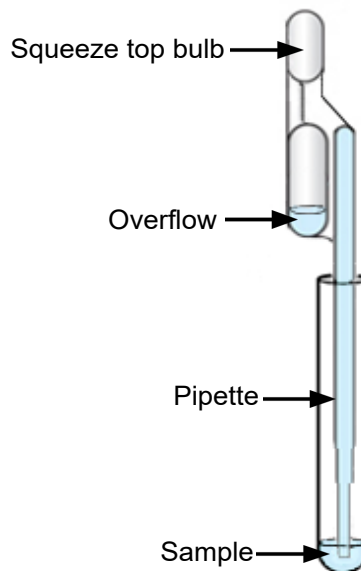

Figure 3. Transfer Pipette
1. Squeeze the top bulb of the transfer pipette **completely** and place the pipette tip in the ESwab transport medium tube containing the patient specimen (see Figure 3).
3. To transfer the patient specimen to the cartridge, squeeze the top bulb of the transfer pipette completely again to empty the contents of the pipette into the large opening (Sample Chamber) in the cartridge shown in Figure 4. It is okay to have excess specimen left in the overflow reservoir of the pipette (Figure 3).